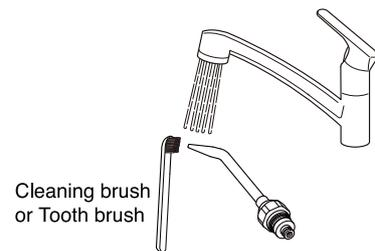

Fig.5-14 Cleaning Belmont 77 Syringe Nozzle
- A. Wipe off the surface contamination by a cloth while rinsing the surface by running clean warm water at  $40\pm 5$  degrees. Scrub the tip and joint part of nozzle by a cleaning brush or by a tooth brush with running clean warm water at  $40\pm 5$  degrees. (Fig.5-14)